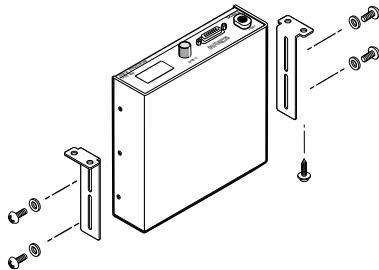

Figure 11 — Attaching the through desk brackets (part number 70-077-02)
- Attach the mounting brackets to the interface using four machine screws and washers (supplied with the mounting kit), as indicated in figure 11.